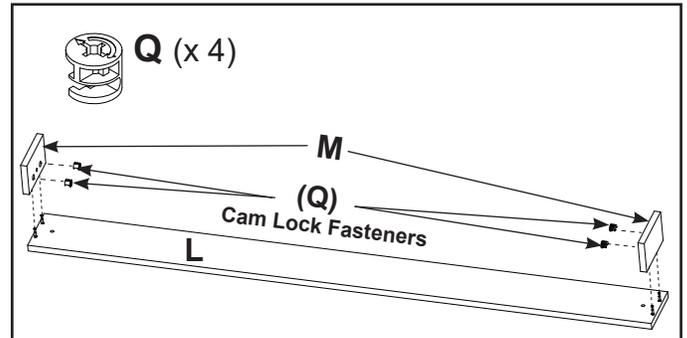

Figure 30
- Install two (2) Cam Lock Fasteners (Q) into each part "M" with the arrows in the orientation shown on page 2 and Figure 30.
- Align left and right parts "M" onto the Cam Pins installed on part "L". See Figure 30.
- Turn each of the four (4) Cam Lock Fasteners (Q) clockwise 1/4 turn. Refer to Step 4 and Figure 30.